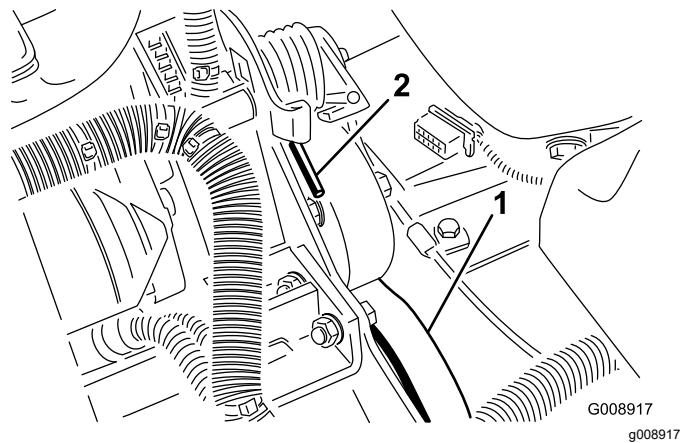

Figure 56
2. Push down and forward on the spring end (Figure 56) to unhook it from the bracket and release tension on the spring.